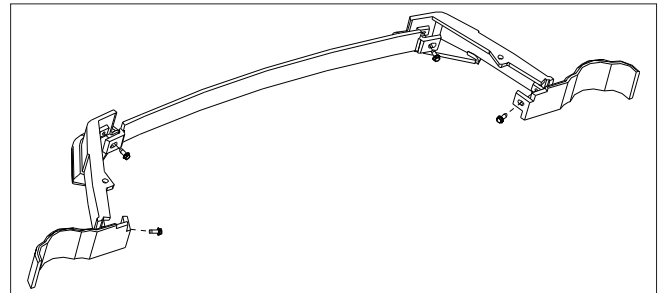

Figure 9: Assembling Cast Skirt.
1. Using a 3/8" socket or wrench connect the five (5) pieces of the skirt together with four (4) screws provided (see Figure 9). Do not completely tighten the screws; the screws should be loose enough that the cast pieces will be able to be adjusted but not fall apart.